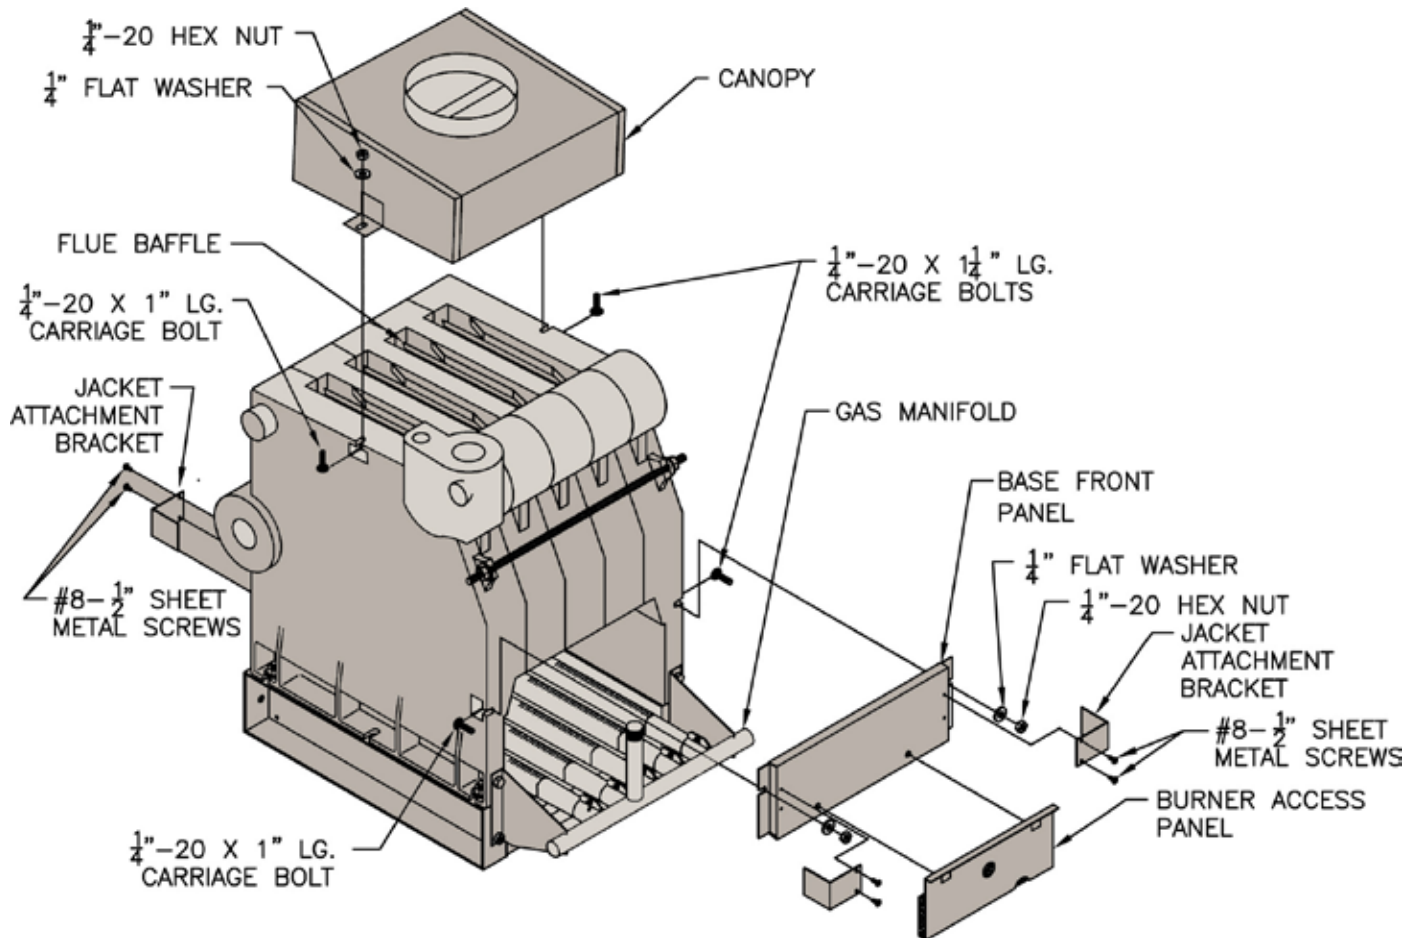
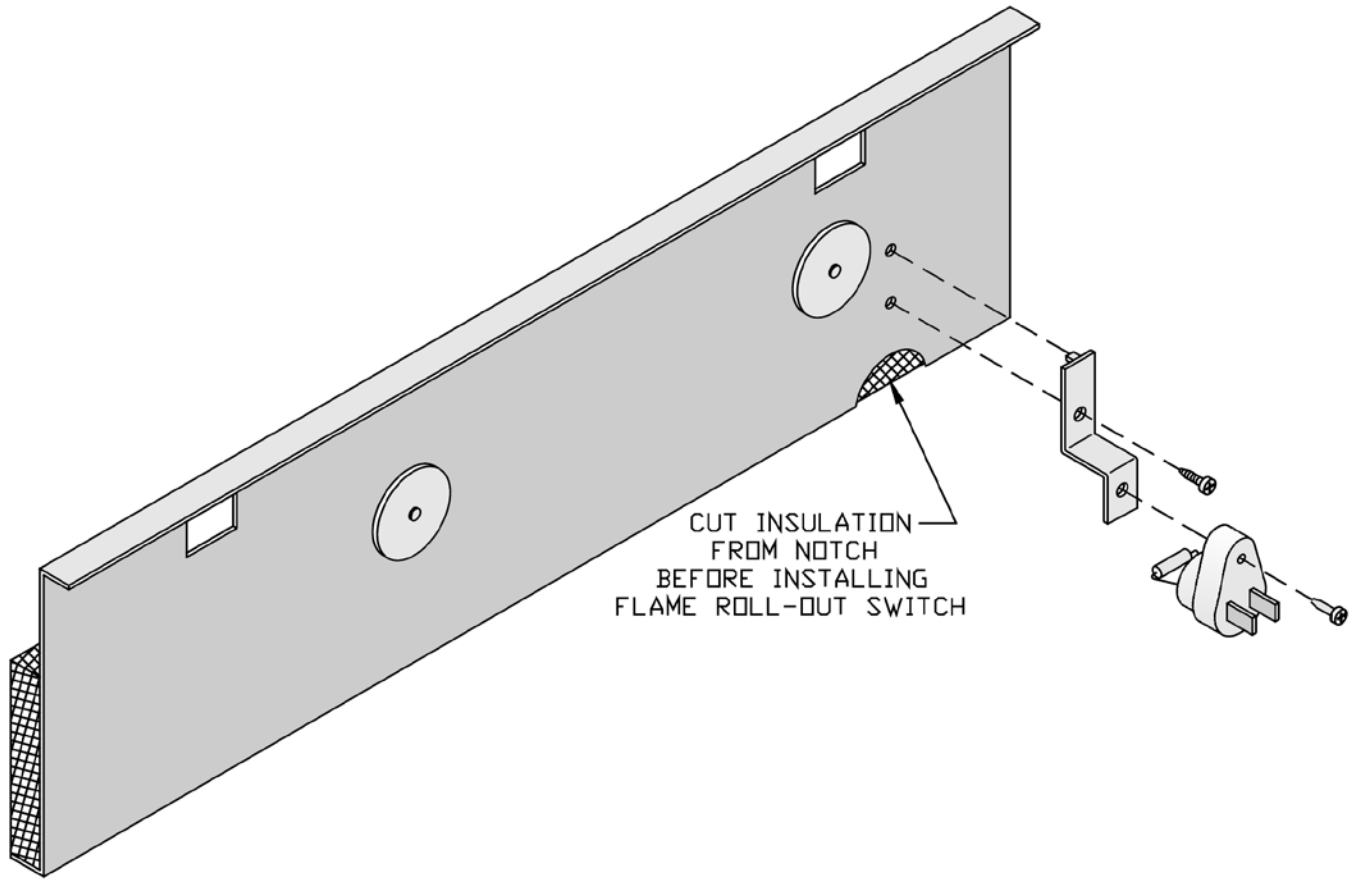
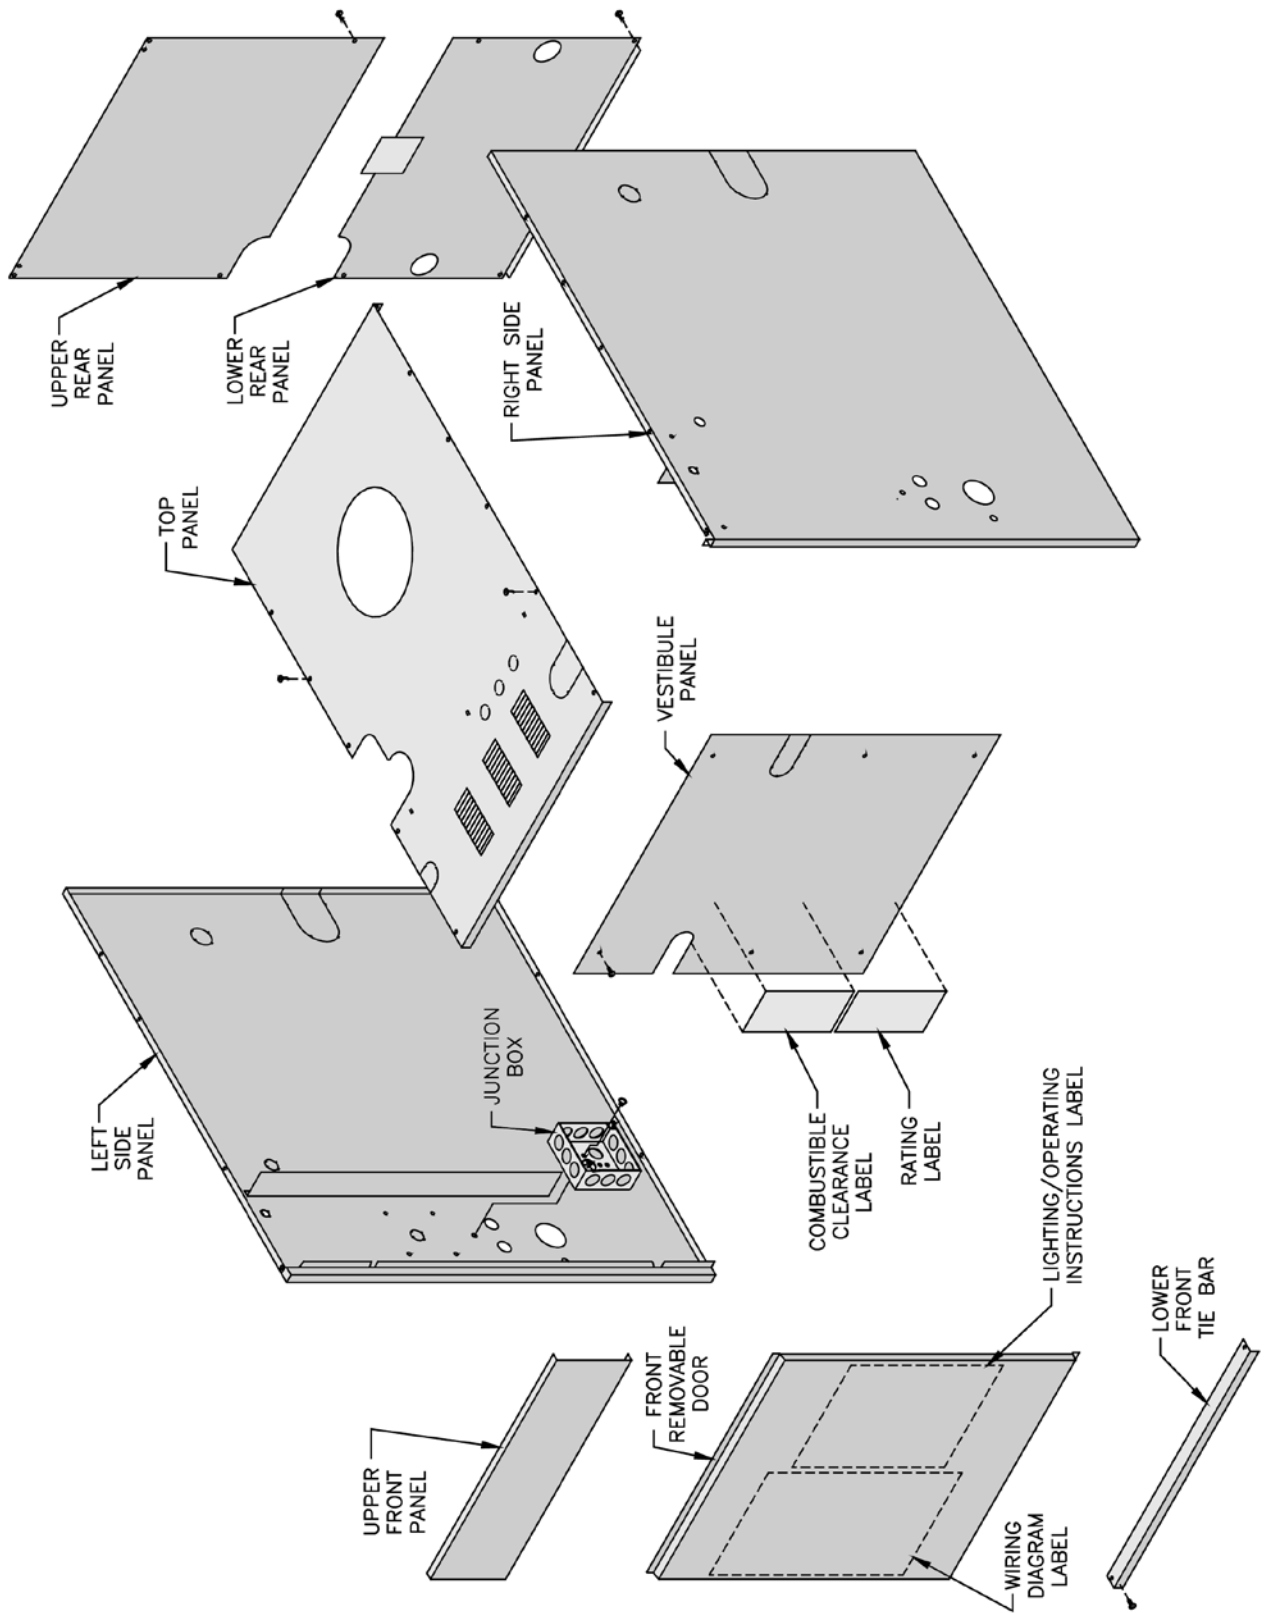
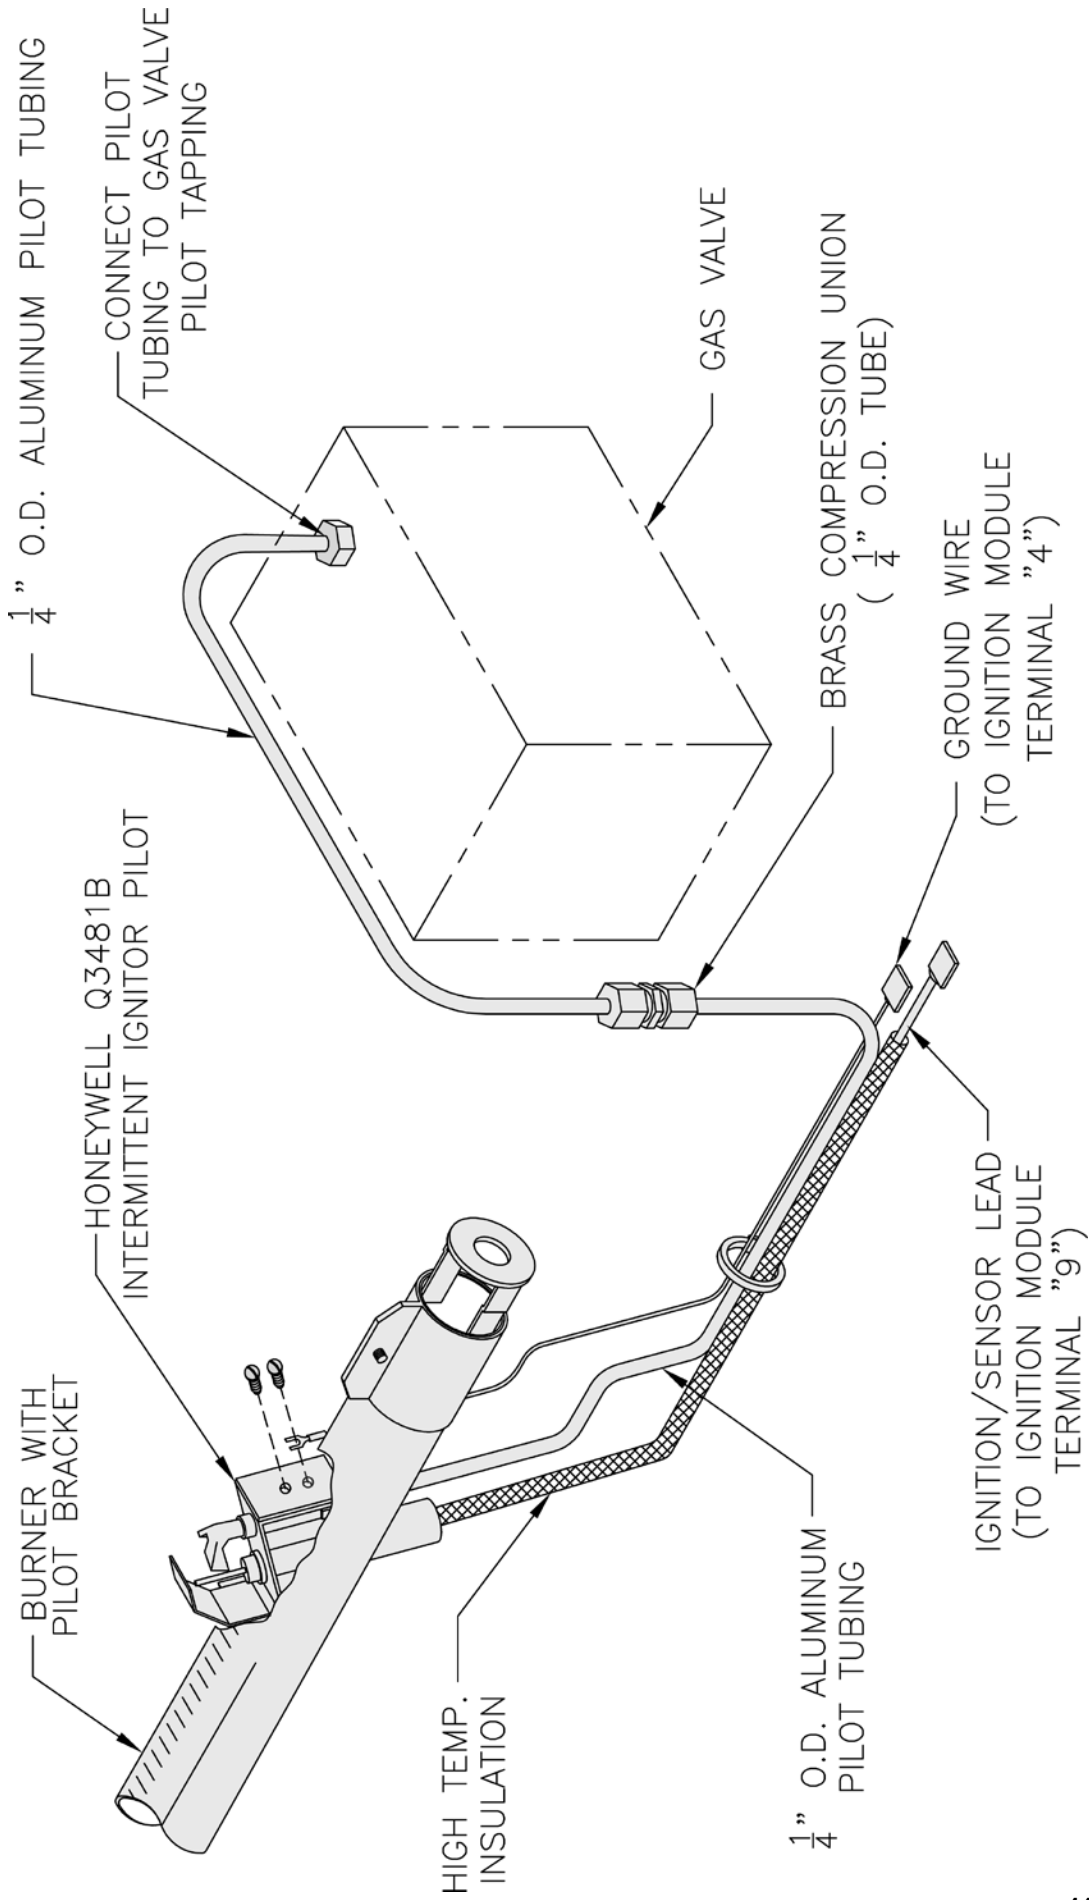

Figure 5: General Assembly (Knockdown Boilers)
Figure 6: Flame Roll-out Switch Installation
Figure 8: Jacket Assembly
Figure 12: Schematic Pilot Piping (Honeywell EI), USA
- F. Confirm that one (1) Flue Baffle is properly positioned in each Boiler Flueway.** Tabs at the top of each Flue Baffle should be resting on top row of Flue Pins on each adjoining section.
- G. Install Canopy** on section assembly. See Figure 5. Canopy and hardware are located in Combination Boiler Parts and Control Carton.
- I. Install Base Front Panel.** See Figure 5. Panel and hardware located in Combination Boiler Parts and Control Carton.
- L. Attach Flame Roll-out Switch** to Burner Access Panel. See Figure 6. Flame Roll-out Switch and hardware are located in Combination Boiler Parts and Control Carton. Flame Roll-out Switch is a single use device - do not test with heat - switch cannot be reset.
1. Cut insulation from semicircular notch at right end of the burner access panel. Models 16G-399 thru 16G-505 have two (2) burner access panels. Remove insulation from notch of right side burner access panel only.
2. Attach Flame Roll-out Switch Mounting Bracket to burner access panel with (1) #8 x ½" lg. sheet metal screw.
3. Attach Flame Roll-out Switch to mounting bracket with (1) #8 x ¾" lg. sheet metal screw.
- M. Install Burner Access Panel(s).** Locate Burner Access Panel(s) in Combination Boiler Parts and Control Carton. Engage Burner Access Panel holes with projections on Base Front Panel. See Figure 5.
- O. Install Jacket.** See Figure 8.
1. Locate four (4) Jacket Attachment Brackets in Combination Boiler Parts and Control Carton. Attach to Front Base Panel and Rear Base Panels with #8 sheet metal screws. See Figure 5.
4. Attach Upper Rear Panel to Lower Rear Panel. Do not install three (3) upper screws.
- P. Install Junction Box.** See Figure 8. Attach junction box to inside of Left Side Panel with ¼" - 20 x ¼" lg. machine screw (located in Combination Boiler Parts and Control Carton).
- a. Honeywell EI - See Figure 12.
- a. Attach Ignition Control Mounting Bracket to Jacket Vestibule Panel using two (2) #8 x 1/2" sheet metal screws.
- b. Attach Honeywell Ignition Module to Mounting Bracket using two (2) #8 x 1/2" sheet metal screws.
4. Mount Transformer (continuous circulation) or Control Center (intermittent circulation) to Junction Box. See Figure 8.
- a. Attach Ignition Transformer to Jacket Vestibule Panel using four (4) #8 x 1/2" lg. sheet metal screws.